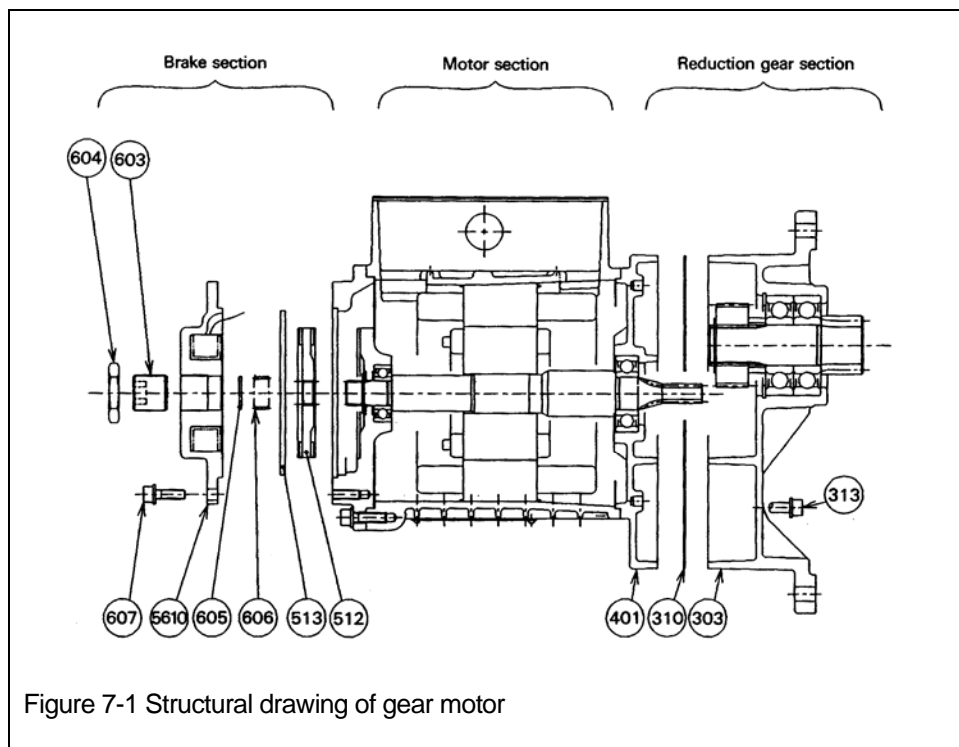

Figure 7-1 Structural drawing of gear motor
- b) To clean and lubricate the reduction gearing in the gear motor refer to Figure 7-1 and disassemble as follows:
- (1) Detach the socket bolts 313.
- (2) Disassemble gearbox A 303 from gearbox B 401.
- (3) Remove gearbox packing 310.
- (4) Clean components and re-lubricate using an approved lubricant from Table 6-1 in Section 6.
- (1) Reassemble in reverse order of the disassembly procedure.
- (2) Coat the threaded portion of the socket bolts 313 with, Loc-Tite, or similar glue.
- (3) Once assembled, free the brake and ensure that the gears are meshed properly by turning the pinion by hand.
- c) To clean, lubricate and adjust the brake in the gear motor refer to Figure 7-1 and disassemble as follows:
- (1) Remove the electromagnetic coil assembly 5610 by detaching the socket bolts 607.
- (2) As the electromagnetic coil assembly 5610 is wired to the terminal box of the motor, be careful when handling the wiring.
- (3) Remove the spring holder 605, brake spring 606, armature 513 and brake disk 512.
- (4) Lightly grease the spline of the brake disk 512 and sliding parts of the armature 513 with MORISPEED grease No. 2 or similar.
- (5) Inspect the brake disc for wear and replace if necessary. Do not allow grease or oil on the brake disc surface.